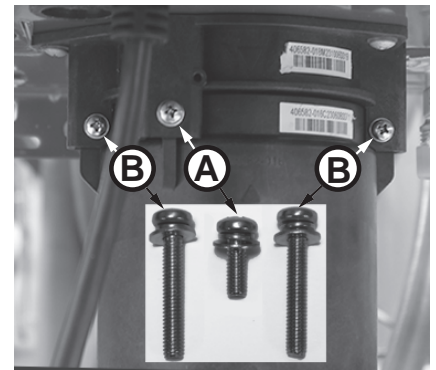

Figure 130 - Identify cartridge screws
- 6 Locate the three (3) screws securing the X3®/Bypass cartridge as shown in Figure 130. Remove the (A) M4-12mm screw and the two (B) M4-25mm screws from cartridge. Place screws aside in a safe place for reinstallation.